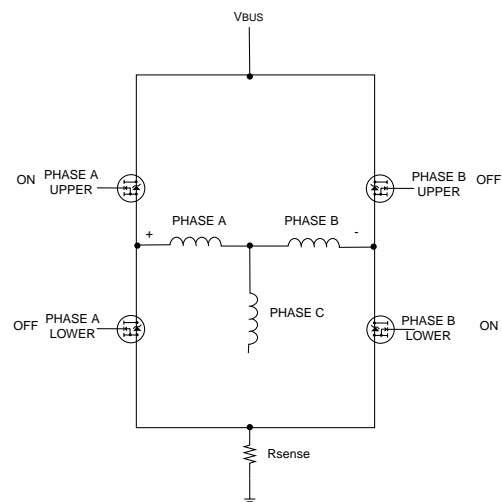
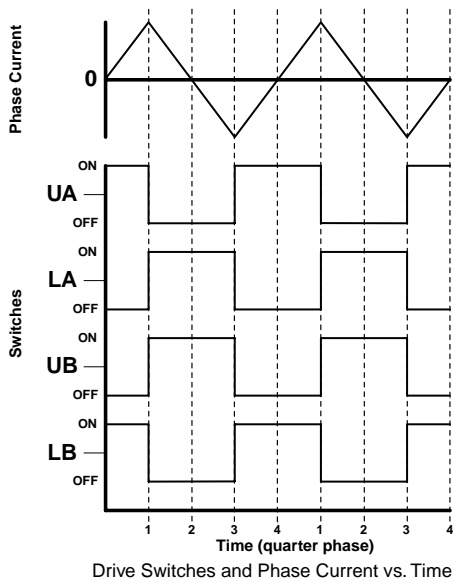

FIGURE 2. COMPLEMENTARY 4-QUADRANT DRIVE FIRST HALF OF PWM CYCLE
FIGURE 3A. COMPLEMENTARY 4-QUADRANT DRIVE PWM CYCLE
COMPLEMENTARY (FIGURES 2, 3A)
During the first quarter of the PWM cycle (starting at time zero on FIGURE 3A) the MOSFET's, PHASE A UPPER (UA) and PHASE B LOWER (LB) (FIGURE 2), are turned on. This allows current flow from phase A to phase B to increase to $+I_{max}$.
During the second quarter of the PWM cycle, the first pair of transistors, UA and LB are turned off and a second pair PHASE A LOWER (LA) & PHASE B UPPER (UB) (FIGURE 2) are turned on. This allows the current in phase A & B from the previous quarter cycle to decrease from I_{max} to zero. The average current during the first two-quarter cycles is positive.
During the third quarter of the PWM cycle, the second pair of switches UB & LA remain on allowing current to flow, in the negative direction, from phase B to phase A and increase to $-I_{max}$ as shown in FIGURE 3A.
NON-COMPLEMENTARY (FIGURES 2, 3B)